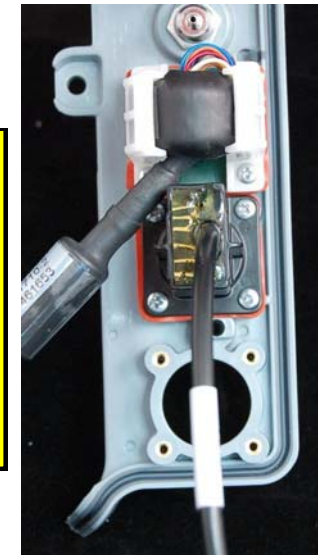

Figure 8.108—Temperature cable parts and screw locations
1. Place the temperature connector and new gasket (REF 21300-001315) into the second connector mounting hole up from the bottom of the parameter bezel. Secure the temperature connector with four new screws (REF 21300-007297); torque to 6.8 in-lb. (See Figure 8.108 on p. 343 for connector orientation.)